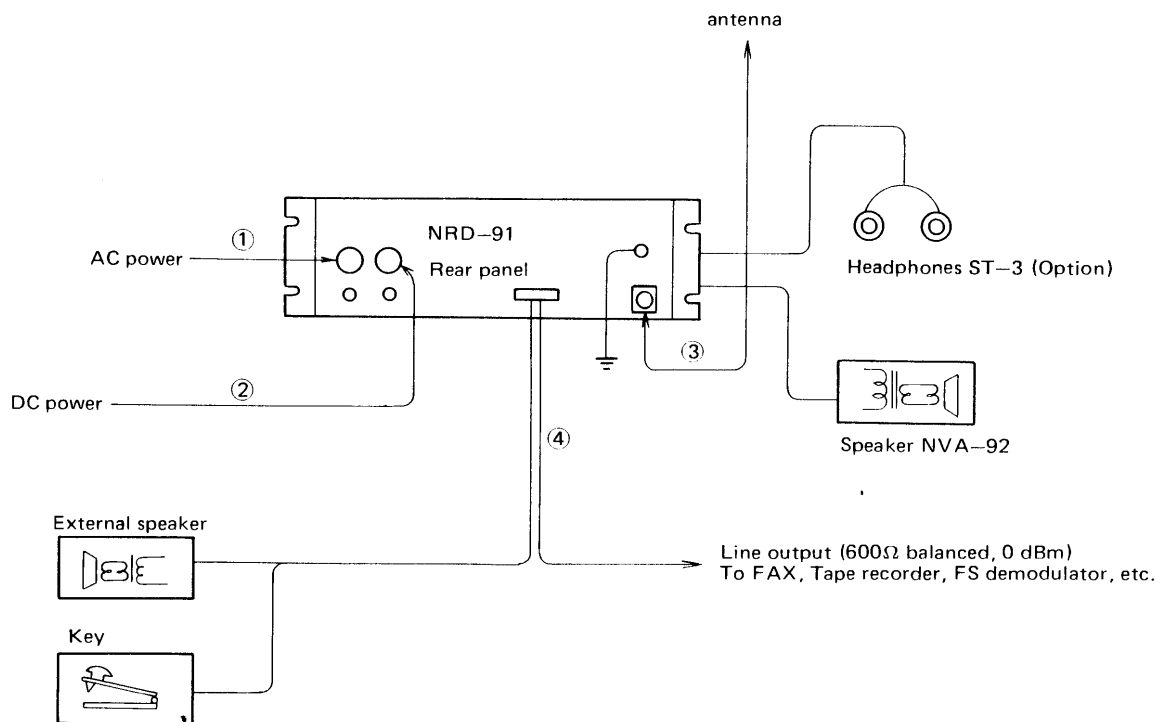

Fig. 3.3
- (2) Connect the antenna cable to the **ANT** connector provided at the rear panel.
- (3) Connect the grounded wire to the terminal **E** on the rear panel.
- (4) If the break-in relay circuit is to be used, connect the special cable (MPKC03108) to the **BK & LINE** connector. The AF output signal (600Ω unbalanced speaker output, and 600Ω balanced line output) can be also taken out from this connector. See Fig. 3.3 for details.